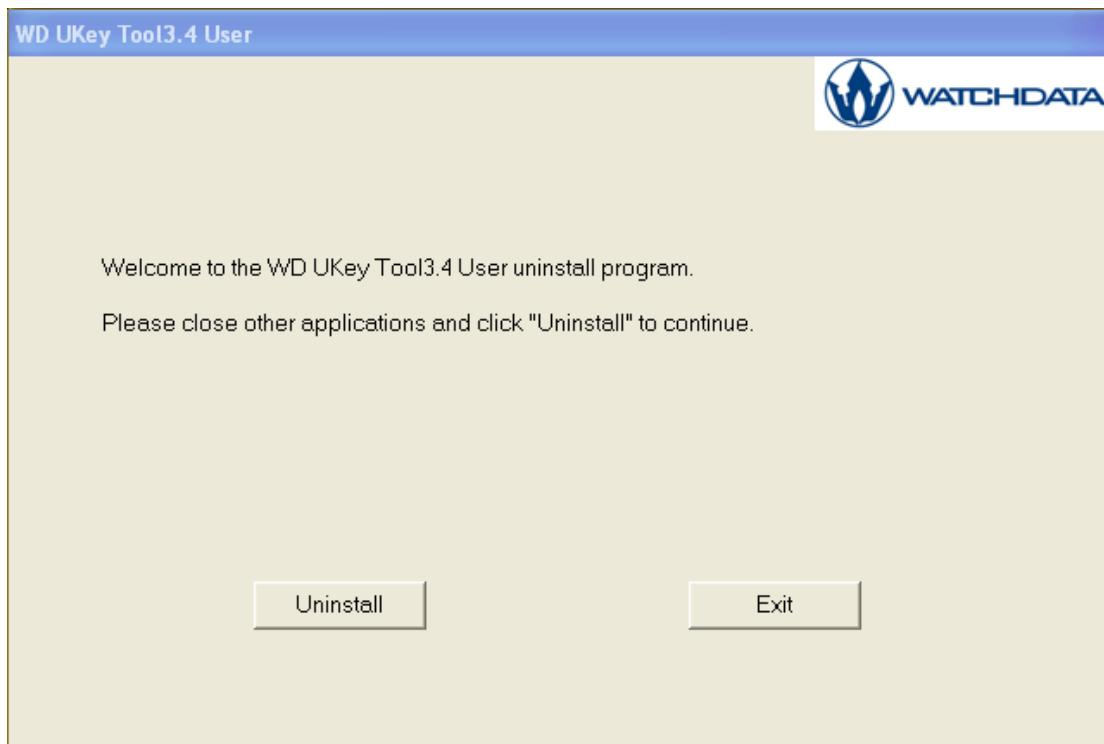

Figure 2.2.1 First page of USBkey uninstall
Step 1: upon select 'uninstall', a window like figure 2.2.1 appears.